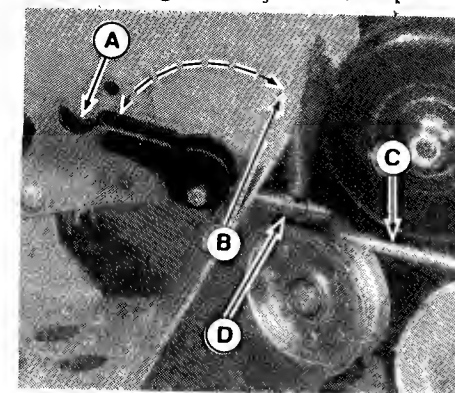

Figure 29. Parking Brake - Six Speed
1. **To adjust the parking brake**, loosen the jam nut (D, figure 29). Rotate the parking brake lever clockwise until it is tight and pulled up against fender. Operate the lever to see if it is too tight or too loose. It should be tight against fender when set but not too tight to operate. When proper adjustment is made, tighten the jam nut.